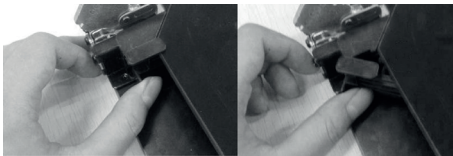

Fig. 2
2. According to Fig. 2, press the „levers“ near the hinges on both sides of the door to unlock the locks.